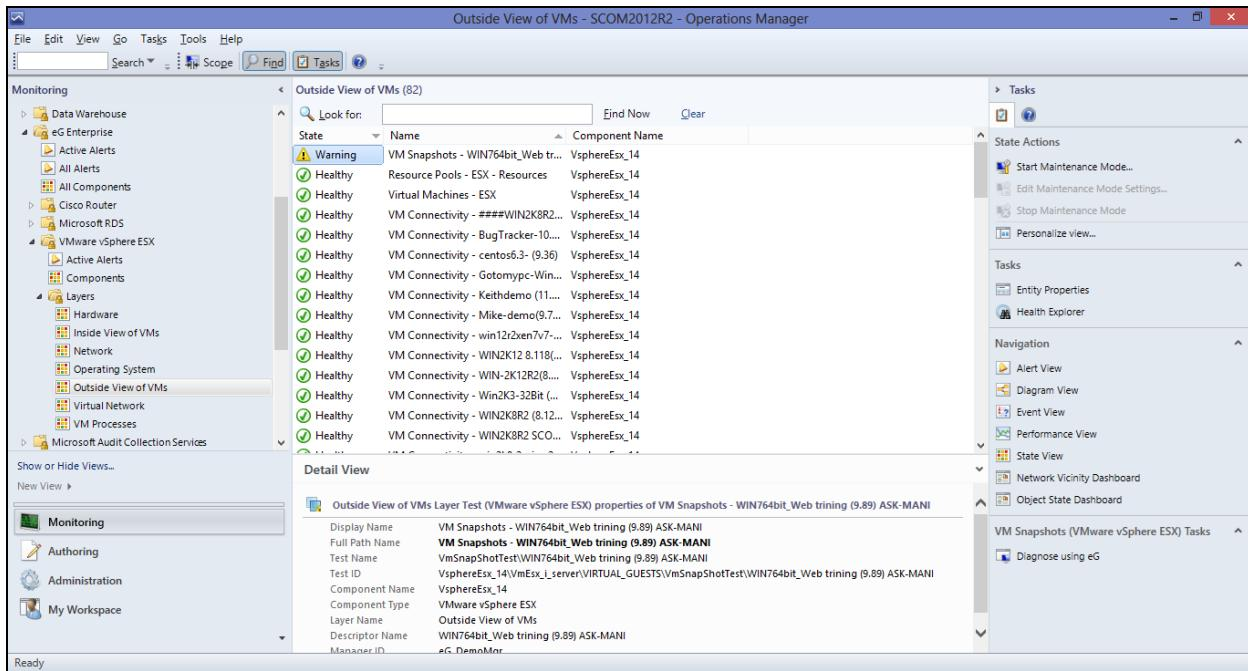
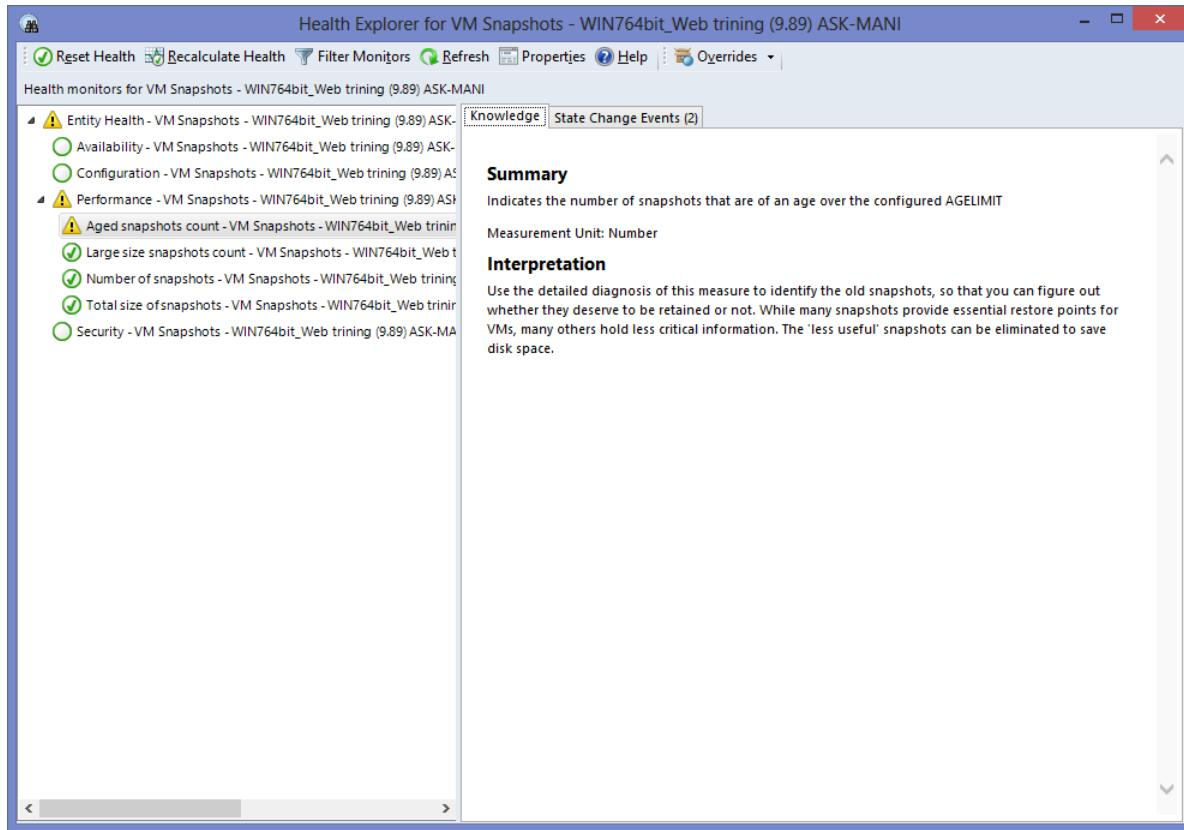

Figure 4.21: Clicking on the Health Explorer option of a test mapped to a particular layer
Figure 4.22: Health explorer for the VM Snapshots test mapped to the OutsideView of VMs layer of a VMware vSphere ESX server
2. Figure 4.22 will then appear. As you can see, in the left panel of Figure 4.22, all the measures of the **VM Snapshots** test (that we had earlier selected from the SCOM console of Figure 4.21) are grouped under the **Performance** node (i.e., category) as monitors. From the left panel, we can clearly infer that the **Warning** on the **VM Snapshots** test is owing to a **Warning** alert on the **Aged snapshots count** measure of the test.